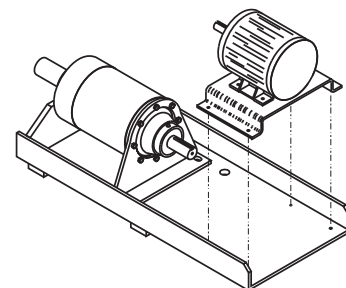

FIGURE 5
6. Position and attach the motor/pedestal assembly to the scoop with the recommended pedestal bolt kit as listed in Table 2. Reference Figure 5. Reference Table 1 for recommended bolt torque values.